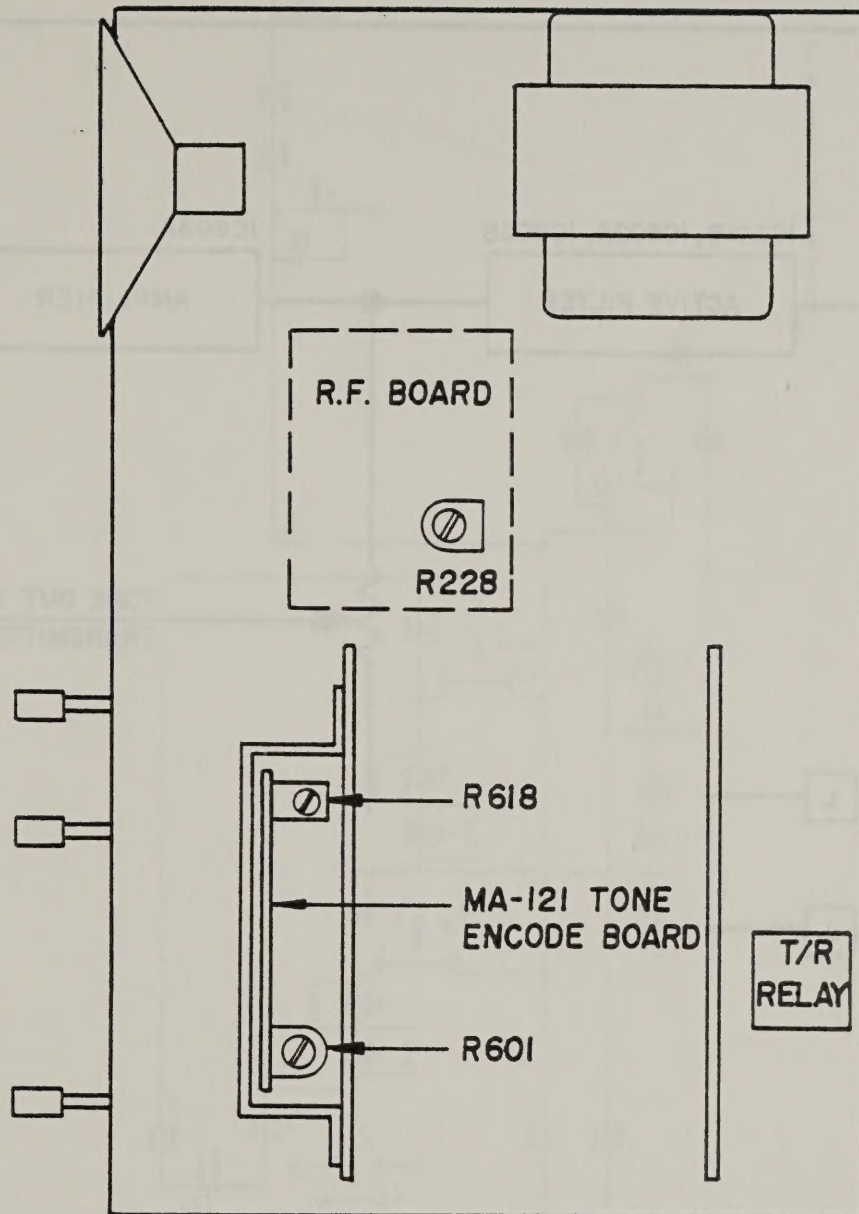

FIG 5
2. The connector that accepts the tone encode circuit board is shown in Figure 5.